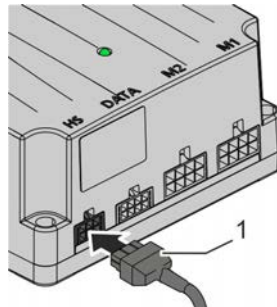

Figure 30 - Connecting the control BUS cable (control unit)
2. Connect the control BUS cable (Figure 30/1) to the hand switch interface HS.